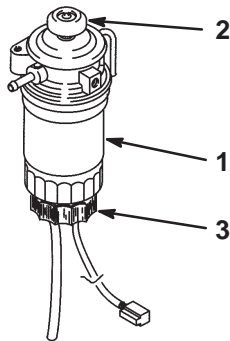

Figure 28
3. Open the drain plug on the fuel filter/water separator approximately one turn and drain any accumulated water. If necessary, operate the priming pump to drain the water (Fig. 28). Tighten the plug after draining.